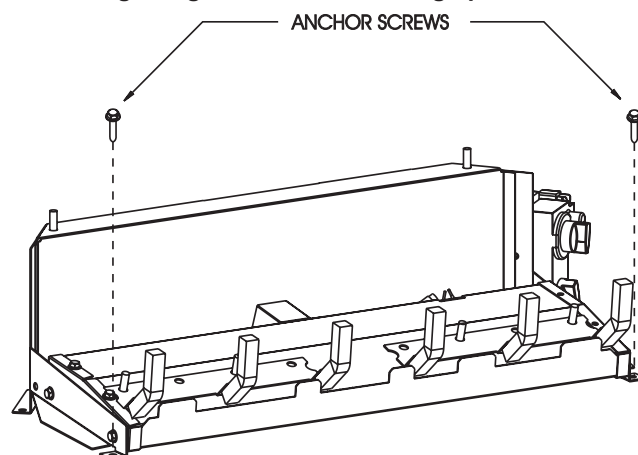

Figure 10
2. An anchor hole is provided in the two bottom side members of the grate frame. After centering the grate correctly, mark the hole positions on the fireplace/firebox floor. Drill two (2) 5/32" diameter holes approximately 1 1/2" deep for masonry screws or 1/8" hole for sheet metal screws.
3. Anchor the grate to the fireplace/firebox floor using the screws provided. Refer to Figure 10.